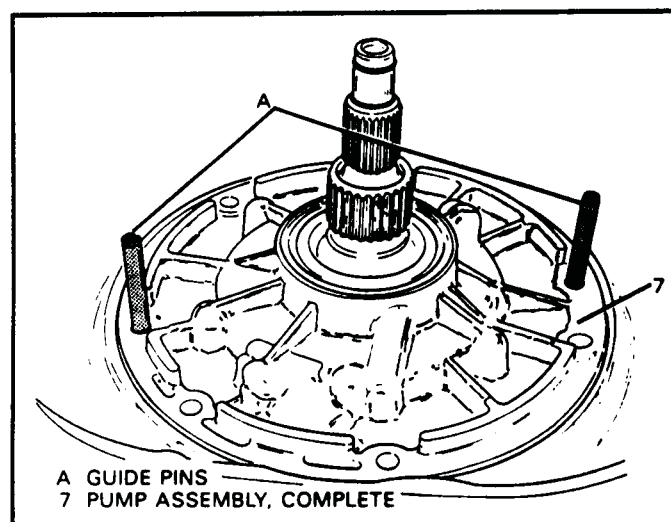

Figure 135
26. Install two guide pins into the case as shown in Figure 135.